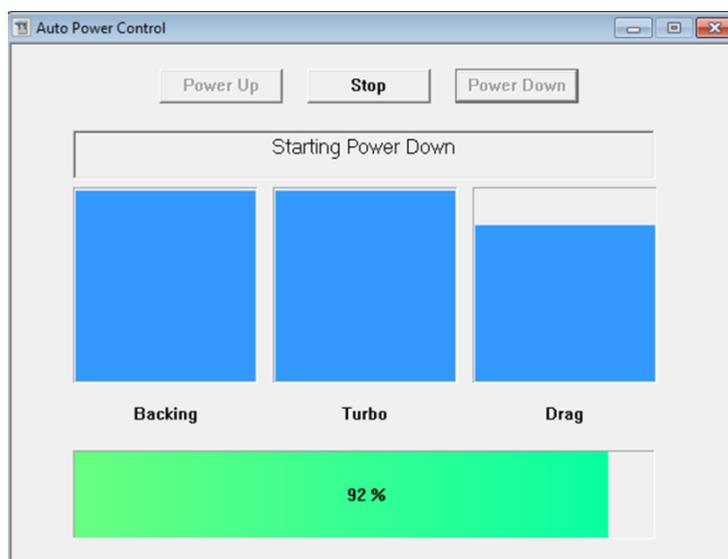

Figure 1.8 – Auto Power Control status window
- The AI-MS has been successfully powered-up when the auto power control progress bar reaches 100% (Figure 1.8).